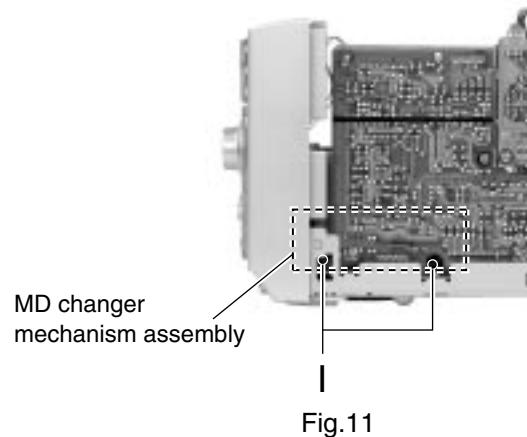

Fig.11
■Removing the MD changer mechanism (See Fig.11 to 13)